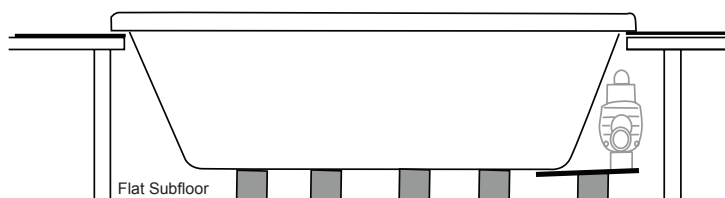

Figure 10 - Support
- 11** Remove scrap lumber and lower the bathtub fully into the opening (Figures 10 and 11).